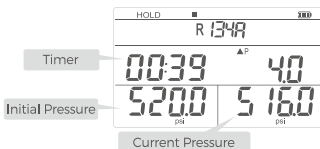

FIG.5 Start the Pressure Leak Test Interface
3.Start leakage test:Press display the and start the timer (Figure 5).